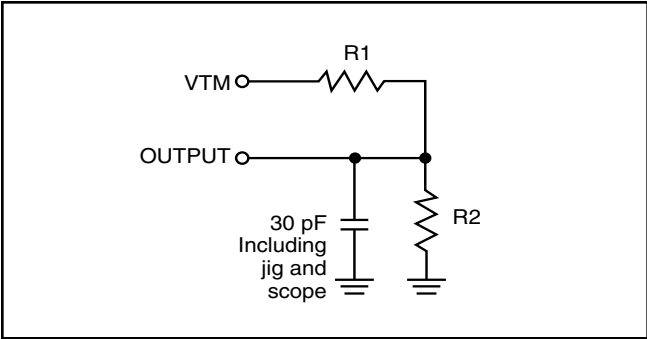

Figure 1
1. Test conditions and output loading conditions are specified in the AC Test Conditions and AC Test Loads (Figure 1).